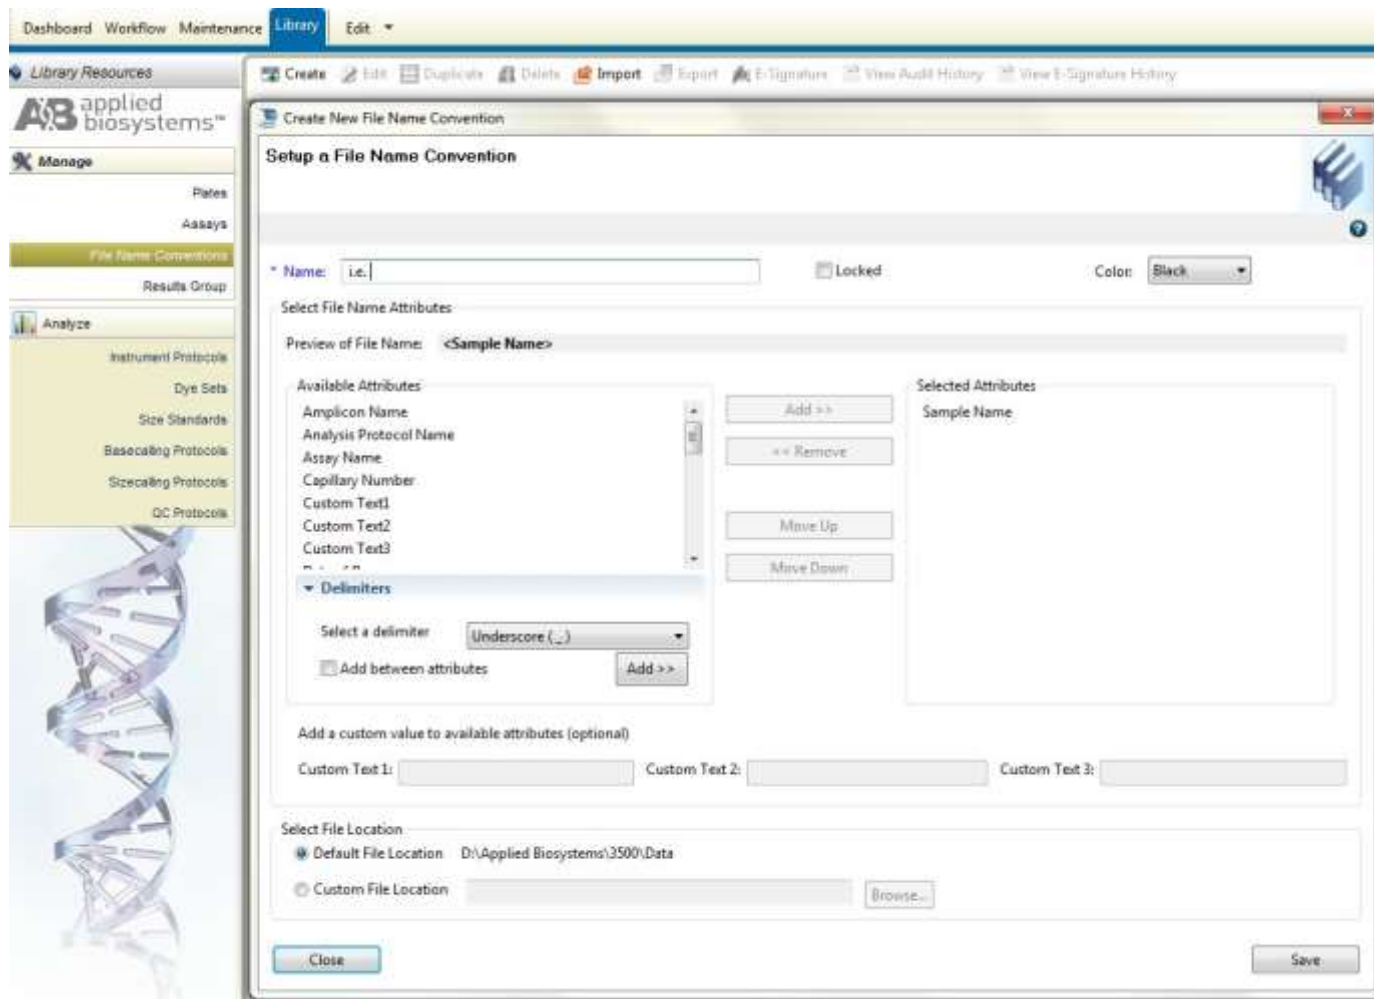

Figure 10. Screenshot for the “Create New Result Group” window on Applied Biosystems 3500 Data Collection software
- c) Select “Create” (Figure 10)